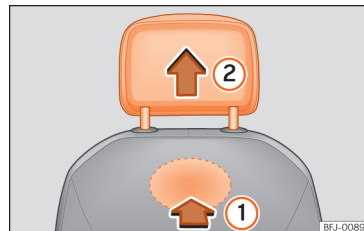

Fig. 77 Front head restraint: removal.
- To unlock it, look for the rabbet on the bottom of the backrest and press in the direction of the arrow »» Fig. 77 ①.
- Remove the head restraint in the direction of the arrow ②.